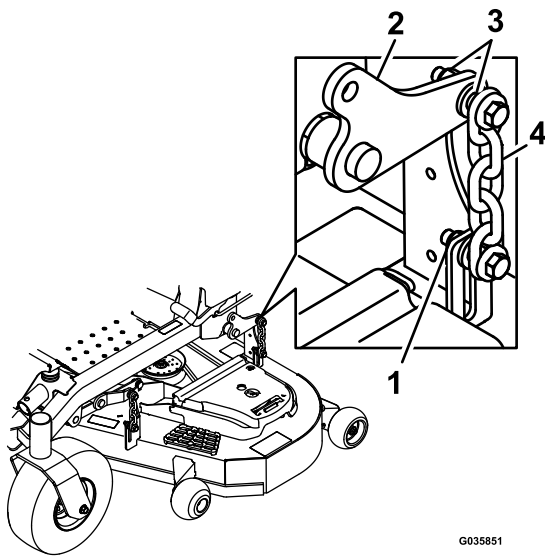

Figure 123
14. Loosen the locknuts (Figure 123) on all 4 corners and ensure that the mower deck is sitting securely on all 4 blocks.